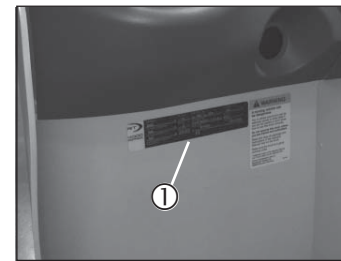

Fig. 1 Dashboard
The capacity plate (Fig. 1 ①) is located on the dashboard panel.